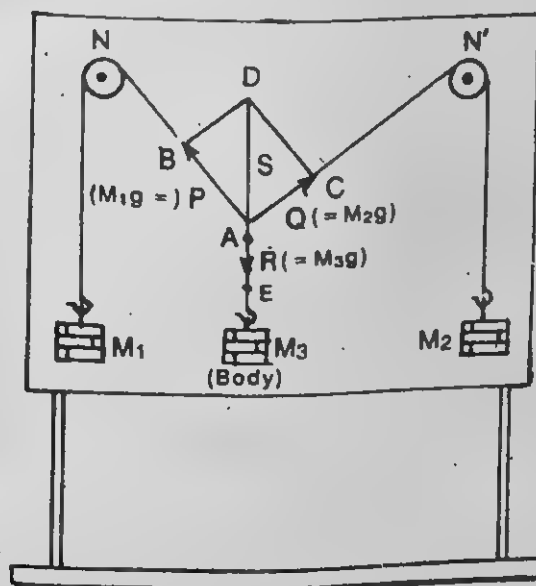

Fig. 10.1
3. Pass a thread over the two pulleys with hangers at its ends and then knot another thread in its middle and attach the given wooden block (unknown weight) to its lower end. Add slotted weights to the hangers till the knot A (Fig. 10.1) lies approximately at the centre of the sheet and none of the hangers and the given body touches the vertical board. When the weights are steady it would mean that the point A is in equilibrium under the action of three forces represented by the weights. In the case of perfect equilibrium, a slight disturbance of the point A should bring it back to the original position but generally the position of A may vary over a small area on account of friction at the pulleys, etc.
7. Choose a suitable scale to indicate the forces so that you may get a fairly large parallelogram. From the common point A mark off lengths AB and AC representing the respective forces P and Q. On adjacent sides AB and AC complete the parallelogram ABCD and draw the diagonal AD which represents the resultant S of P and Q and mark arrow heads to indicate the direction of forces. Also produce EA (Fig. 10.1) and if the experiment is correctly performed, EA produced should pass through D.
8. Measure AD and calculate the force which it represents. It should be equal to its equilibrant in magnitude, *i.e.*, the unknown weight (R) of the given body.